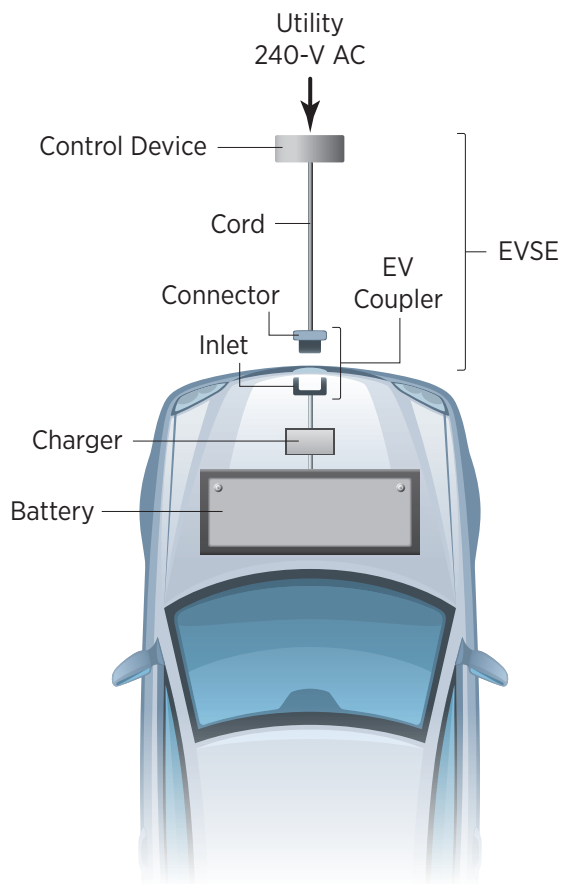

Figure 1. Level 2 charging schematic.
Level 2 EVSE can easily charge a typical EV battery overnight, and it is a common installation for residential, workplace, fleet, and public facilities. Level 2 EVSE offers charging through a 240-V (typical in residential applications) or 208-V (typical in commercial applications) electrical service. These installations are generally hard-wired for safe operation (although a wall plug connection is possible). Level 2 EVSE requires installation of charging equipment and a dedicated circuit of 20 to 80 amp (A) depending on the EVSE requirements (Figure 1). Most Level 2 EVSE uses a dedicated 40 A circuit. As with Level 1 equipment, Level 2 equipment uses the J1772 connector. Based on the battery type, charger configuration, and circuit